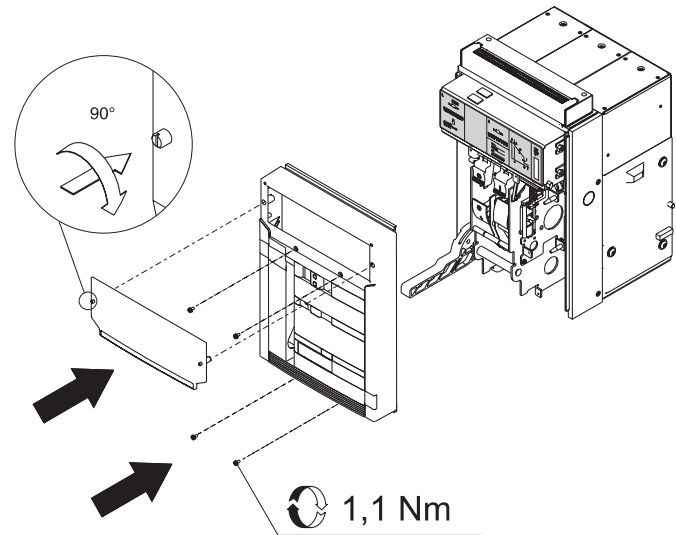

Figure 45.
- Refit the cap as indicated in Figure 45.